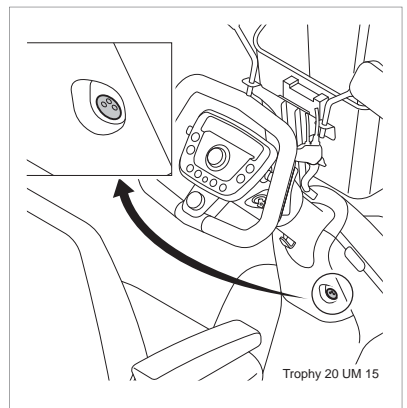

Figure 11
- The charging point (A) is located on the steering column, under the control panel (figure 11). This is the point to which the battery charger cable can be connected.